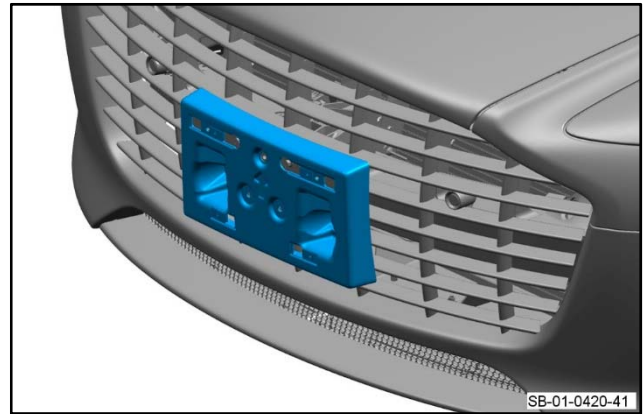

Figure 41
5. Put the front license plate plinth into position (refer to Figure 41).